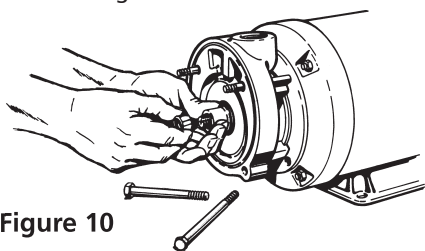

Figure 10
- i. While maintaining inward pressure on the impeller driver, install the impeller nut (Ref. No. 14A). Refer to Figure 10.